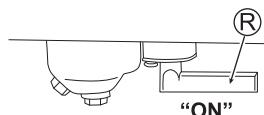

Fig. 9
2. Set the fuel cock (R) to "ON". (See Fig. 9)